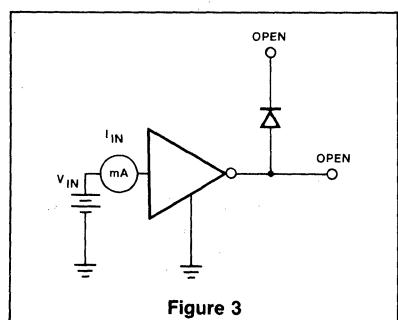

Figure 3
| I_{IN} | Input current (ON) $V_{IN} = 17V$, Test Fig. 3 | | — | | | 0.9 | 1.45 | mA |
| I_{IN} | Input current (ON) $V_{IN} = 3.85V$, Test Fig. 3 $V_{IN} = 5V$, Test Fig. 3 $V_{IN} = 12V$, Test Fig. 3 | | 1.05 — — | 1.65 | | — 0.4 1.1 | 0.65 1.7 | mA mA mA |